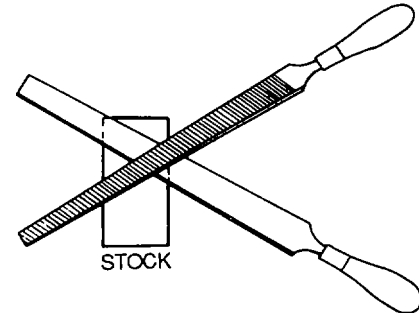

Figure 4-77. Filing for a Flat Surface
- (c) When an exceptionally flat surface is required, hold the file at an angle and file across the entire length of the stock. Then, turn the file as shown in figure 4-77, and file across the entire length of the stock again. Because the teeth of the file pass over the stock in two directions, the high and low spots will be readily visible after filing in both positions.